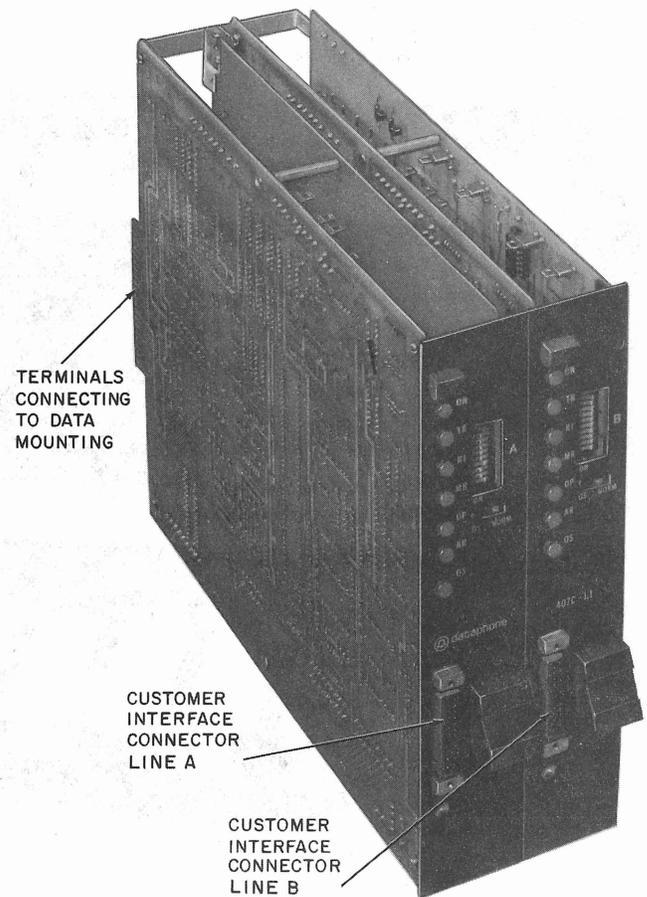

Fig. 3—Data Set 407C-L1—Overall View
2.02 DS 407C (Fig. 3) consists of two circuit packs (CP1 and CP2) mounted together. Two KS-19087-type 25-pin connectors are located on the front of the data set, which provide the interface with customer-provided terminal equipment. Printed wiring board terminals are located on the rear of the data set which enable the data set to plug into the 57-type data mounting. The data set is 25 cm high, 33 cm deep, and 9 cm wide (10 in. high, 13.2 in. deep, 3.7 in. wide), and weighs about 2.5 kg (5.5 lb). The data sets require power sources of +12 volts, -12 volts, +5 and -5 volts, which are provided by the 229A power unit. DS 407C is not interchangeable with any other data set.